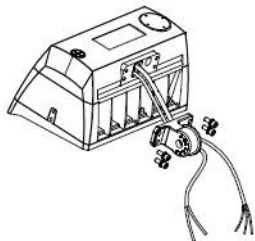

Figure 1
- Step 1. Remove the mount's mounting screws on the fixture and run the wires through the mount (Figure 1).